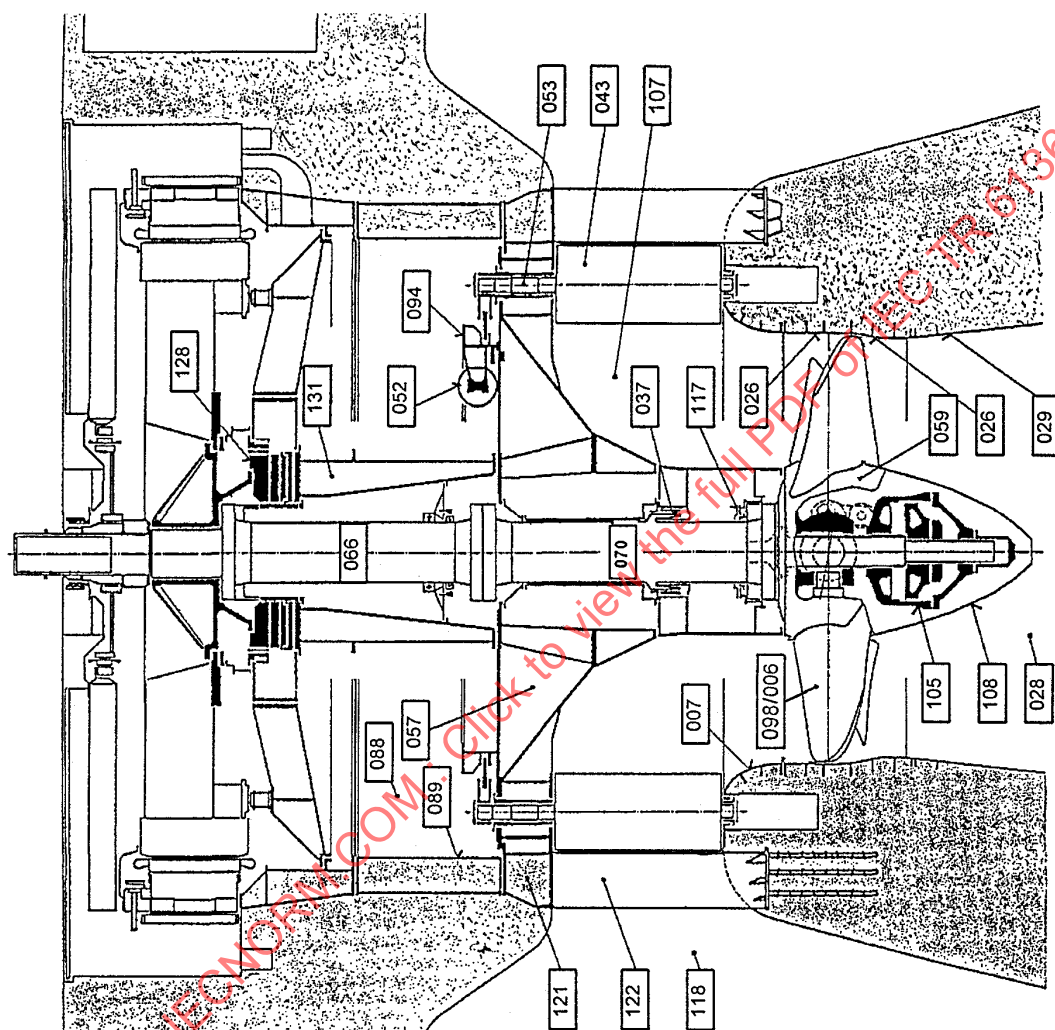

**Figure 23 – Axial machines, Kaplan turbines,**
**6.2.3.1 Kaplan turbines, propeller turbines, figures 23 and 24 (continued)**
**Turbines Kaplan et turbines hélices, figures 23 et 24 (suite)**
**6.2.3.1** Kaplan turbines, propeller turbines, figures 23 and 24 (continued)
Turbines Kaplan et turbines hélices, figures 23 et 24 (suite)